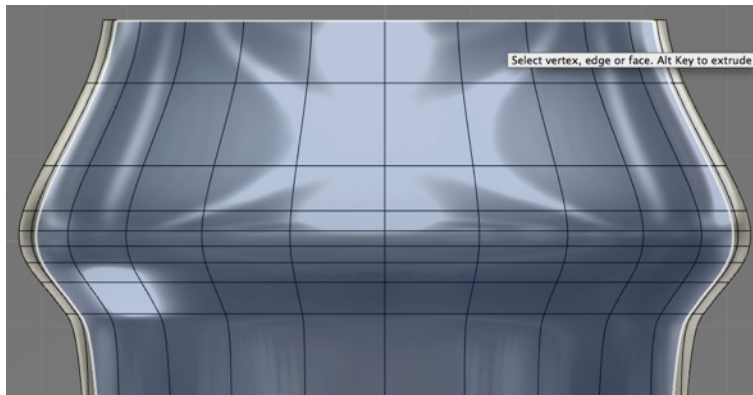

Fig. B15
- c. Stretch model vertically so that the contours align with the outside of the bottle (Fig. B15).